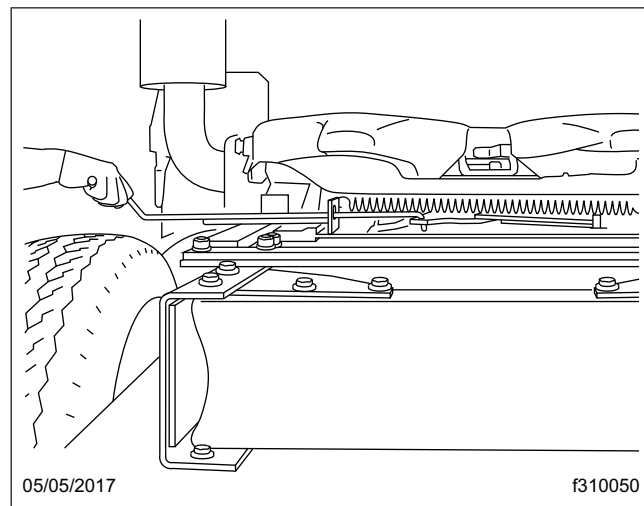

Fig. 18.13, Releasing the Sliding Fifth Wheel, (Fontaine)
- 2.1 **Fontaine:** Lift the slide release pull handle to disengage it from the guide plate. Then, pull out the handle until it is in the unlocked position and can be positioned against the guide plate to hold it out. The handle will stay in the unlocked position until it is manually disengaged from the guide plate. See Fig. 18.13.